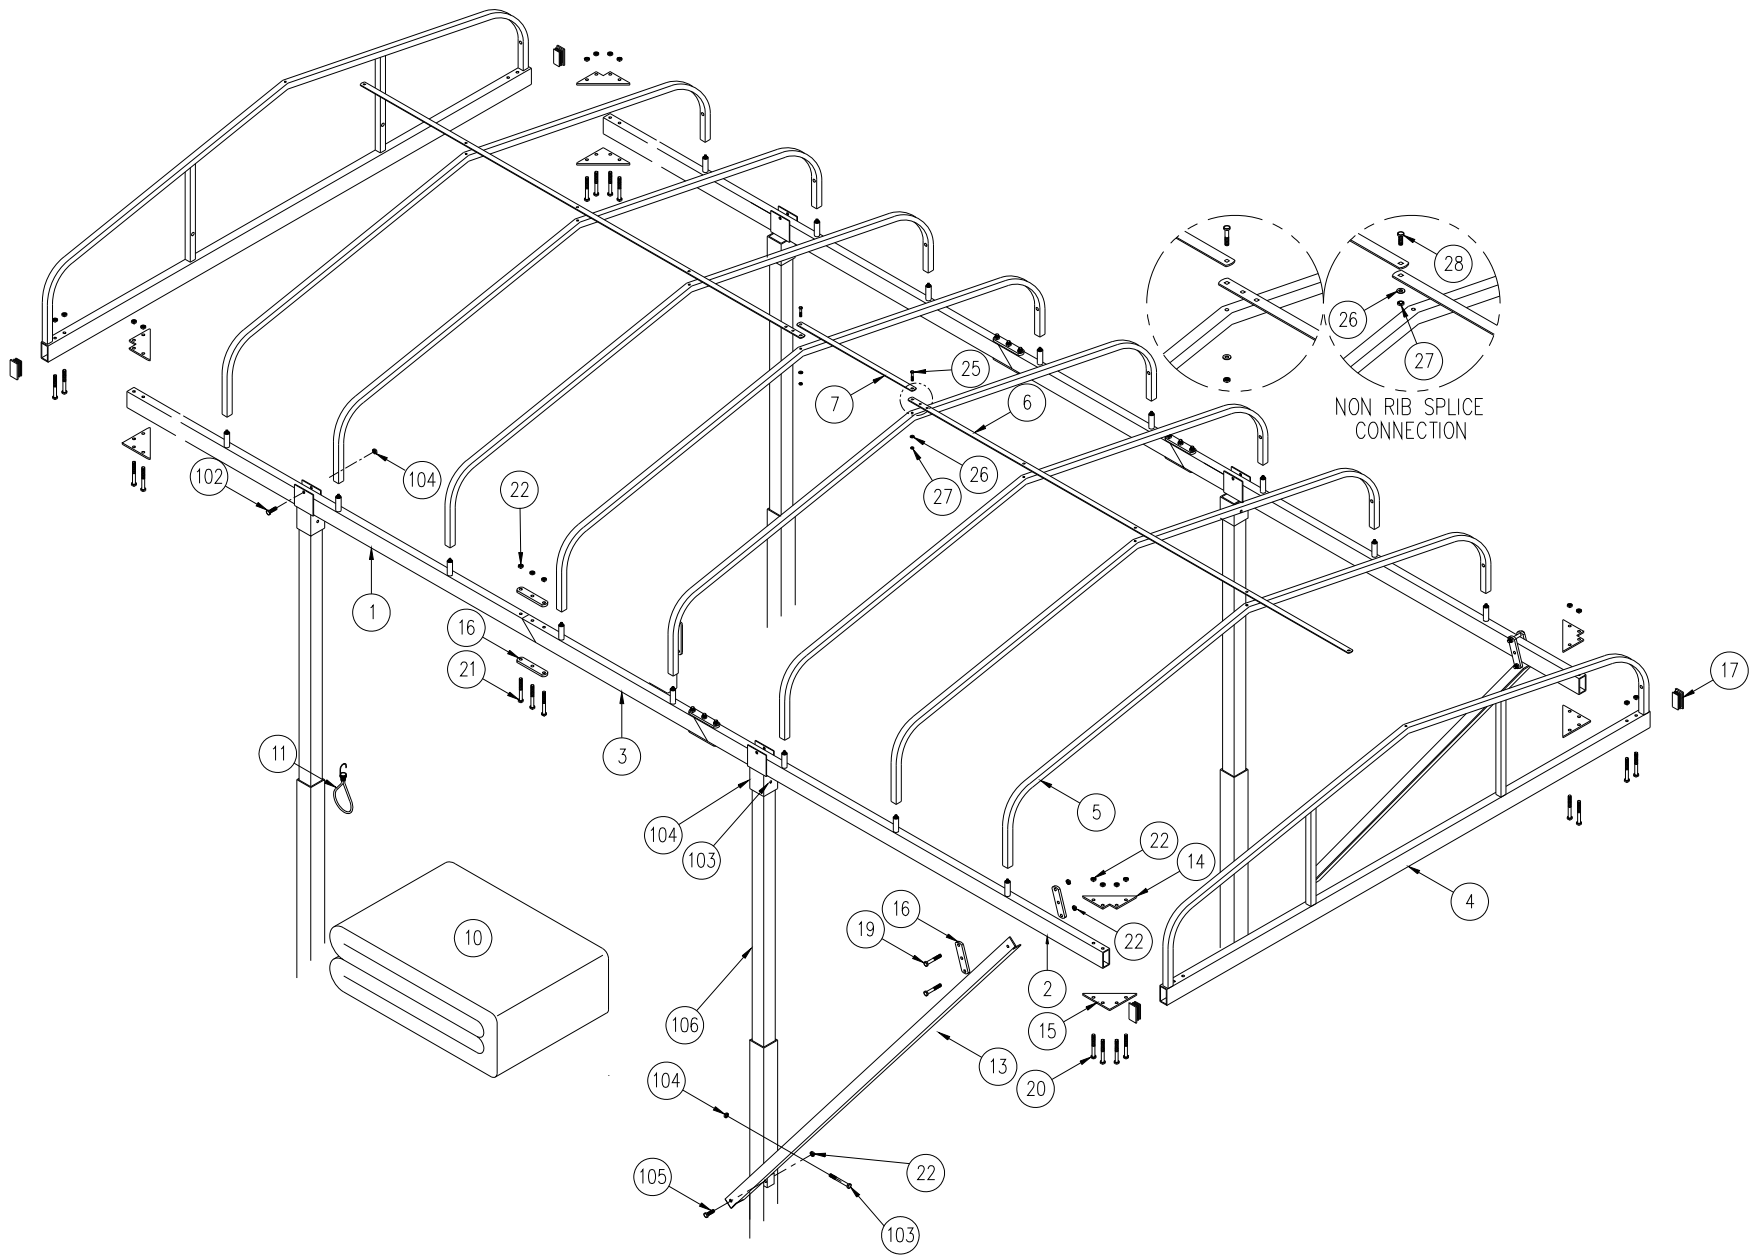

Figure 2-12.
18. Refer to **Figure 2-12**. Insure that the canopy is positioned at the desired location in relation to the boat.